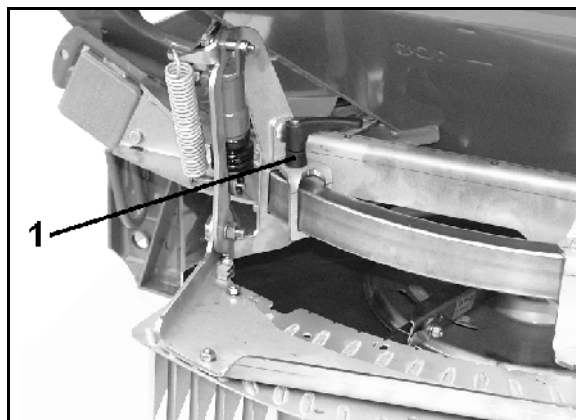

Fig. 64
1. For this purpose, release the clamping lever (Fig. 64/1).